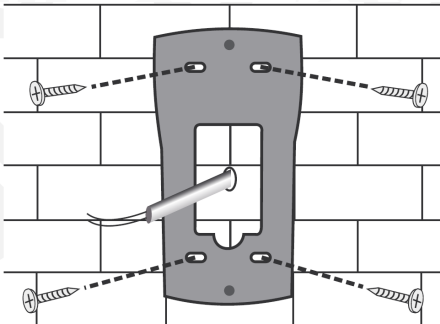

fig. 4a. Rain shade installation
2. With 4 holes in the bottom of the protective roof, uncheck on the wall the places for mounting pins (fig. 4a).
3. In the marked places, drill 4 mounting holes and place there 4 fixing pins (fig. 4a).